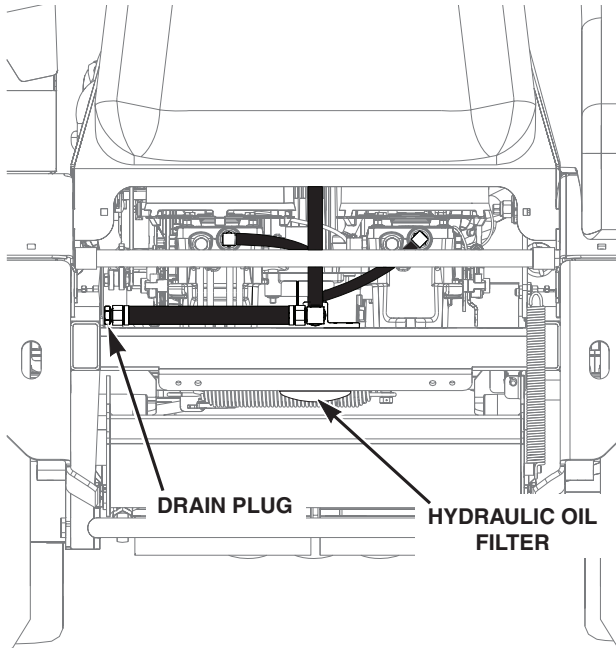

Figure 7-3. Hydraulic Oil Filter
3. Place a suitable container under the hydraulic oil filter. Remove the fill cap from the reservoir. Remove the drain plug from the remote oil drain hose. See Figure 7-3. Allow the fluid to drain into the container and properly discard it.
1. Remove the oil filter element. See Figure 7-3. Properly discard the oil filter element. Fill the new filter with clean oil and install the filter. Hand tighten only.